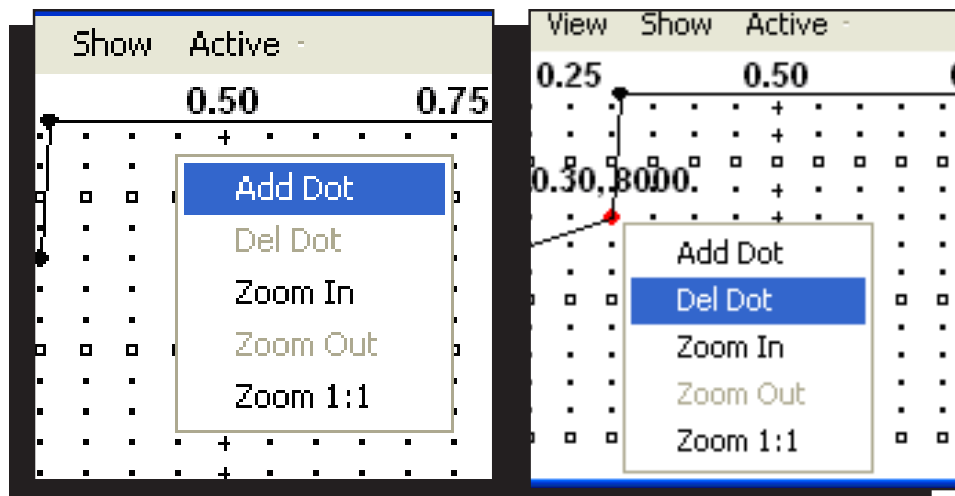

Figure 6 Adding and Deleting Points.
- To move an existing dot on the screen, left click the dot so it turns Red (active). You can then click and drag that dot to a new point on the screen (Figure 6).
- To add a new dot, right click when the cursor is in the area to program and select "Add Dot". You can then move the dot to the precise point (Figure 6).